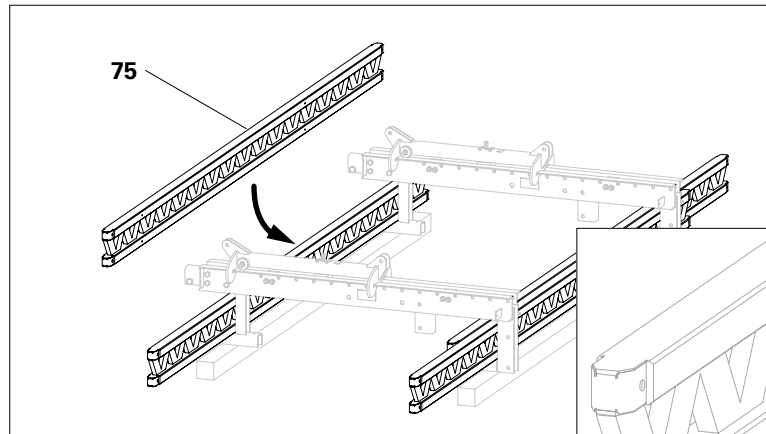

Fig. C2.02
3. Insert the girder in the Crossbeam according to the plan and secure with F.H. Bolts M8, see Section "B2 Planning the Platforms" on page 34. (Fig. C2.02)